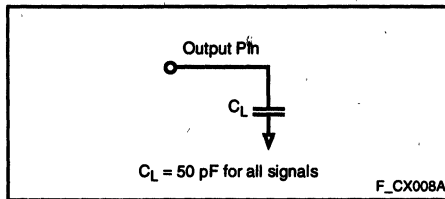
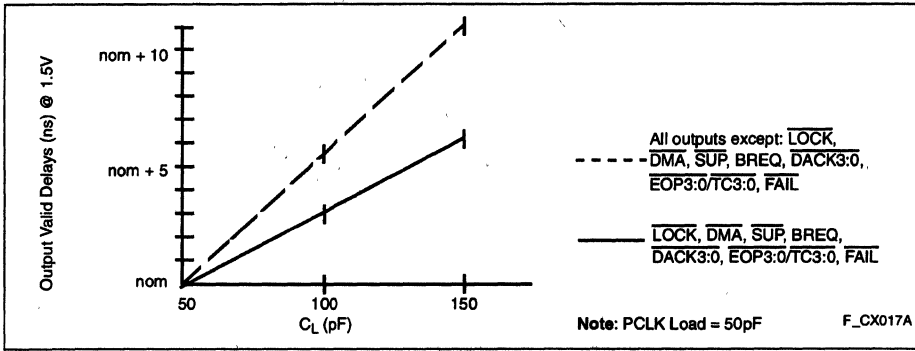

Figure 6. AC Test Load
Figure 15. Output Delay or Hold vs. Load Capacitance
2. See Figure 15 for capacitive derating information for output delays and hold times.
The AC Specifications in Section 4.5 are tested with the 50 pF load shown in Figure 6. Figure 15 shows how timings vary with load capacitance.